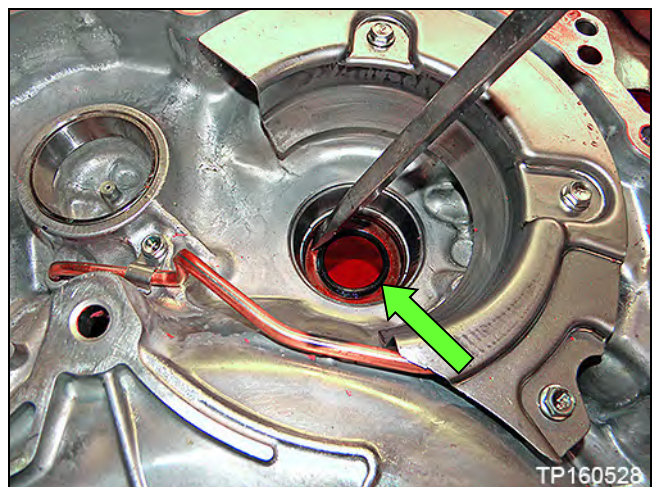

Figure 10C
- c. Torque converter seal (Figure 10C).